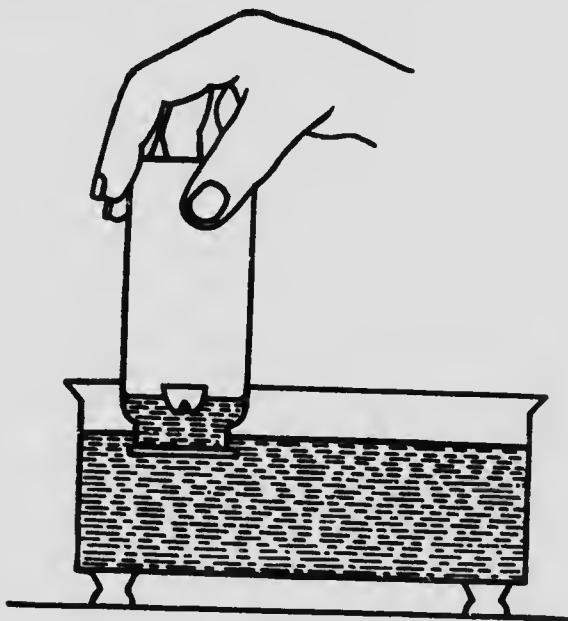

FIG. 43.
**Sketches.**— Figs. 43 and 28.
(a) Set up the apparatus as shown in Fig. 43.